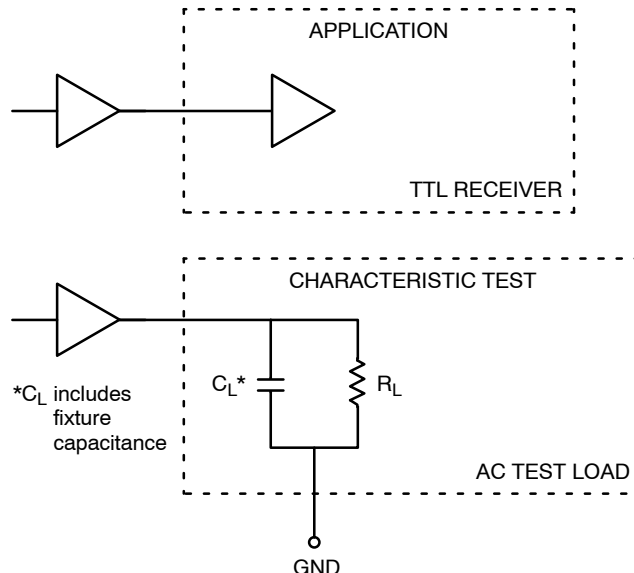

Figure 2. TTL Output Loading Used for Device Evaluation
2. LVTTTL output $R_L = 500\ \Omega$ to GND and $C_L = 20\text{ pF}$ to GND. Refer to Figure 2.